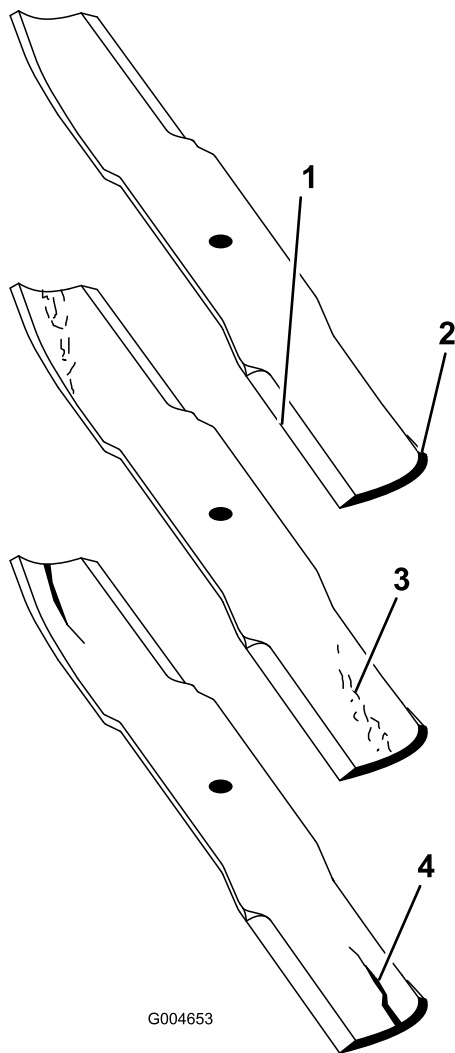

Figure 82
2. Examine the cutting ends of the blade carefully, especially where the flat and curved parts of the blade meet (Figure 82). Since sand and abrasive material can wear away the metal that connects the flat and curved parts of the blade, check the blade before using the mower. If wear is noticed (Figure 82), replace the blade.